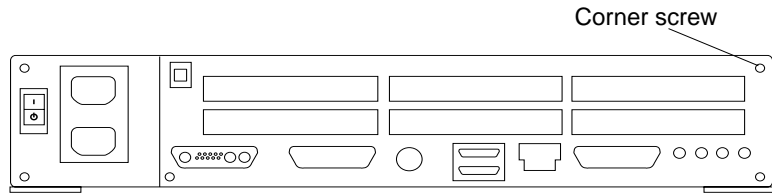

FIGURE 7-6 Back Panel Corner Screw
- 6. Tighten the screw on the back panel corner and secure the cover (FIGURE 7-6).**